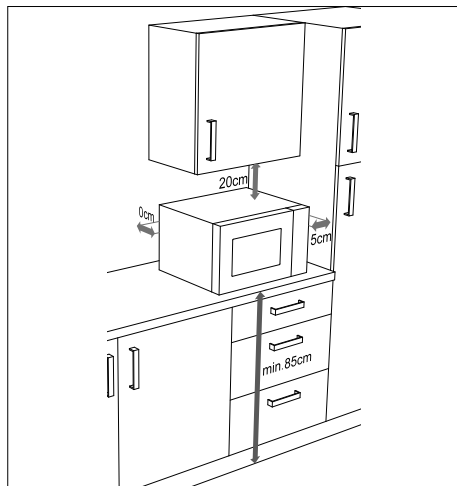

Fig. 5 – Appliance clearance
- ▶ The distances shown must be maintained to ensure adequate ventilation (**see Fig. 5**). The spacer at the back of the appliance must touch the wall. It ensures that the correct clearance is maintained when positioning the microwave.